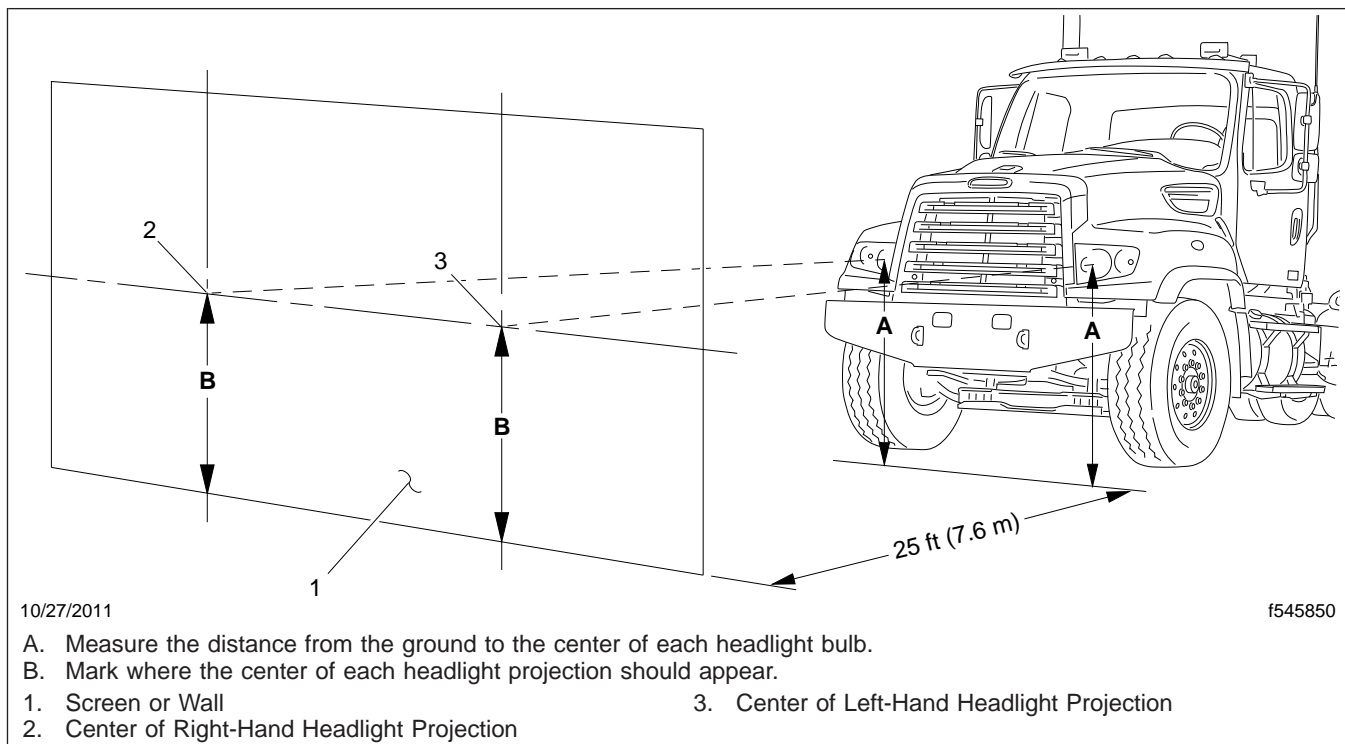

Fig. 23.1, Headlight Aiming Screen/Wall
3. Measure the distance from the ground to the center of each headlight bulb (Fig. 23.1, Item A). Note those distances.
4. On the screen or wall, mark the locations of each headlight bulb center using the distances found in step 3. See Fig. 23.1, Items 2 and 3.